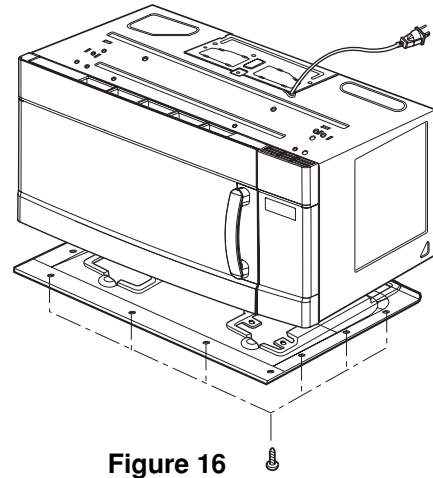
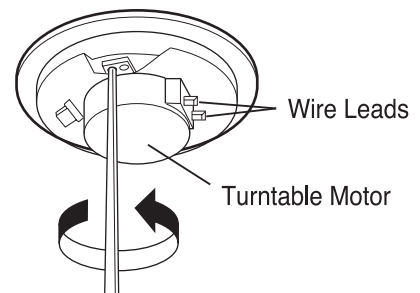

Figure 16
Figure 17
- (3) Remove the base plate by removing 8 screws securing it to the oven cavity. (Figure 16)
- (4) Disconnect the leadwire from the turntable motor terminals.
- (5) Remove the 1 screws securing the turntable motor to the oven cavity ASS'Y. (Figure 17)